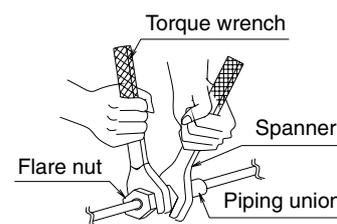

Fig. 6
- Be sure to use both a spanner and torque wrench together, as shown in the drawing, when connecting or disconnecting pipes to/from the unit. **(Refer to Fig. 6)**